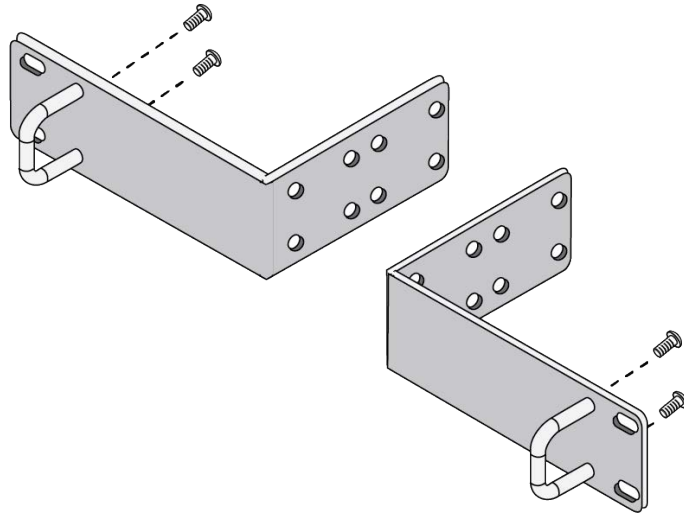

Figure 33. Attaching the Handles to the RKMT-J14 Brackets
4. Attach the two handles to the RKMT-J14 brackets with the four M3x6mm screws included in the kit. Attaching the handles is optional. Refer to Figure 33 on page 67.